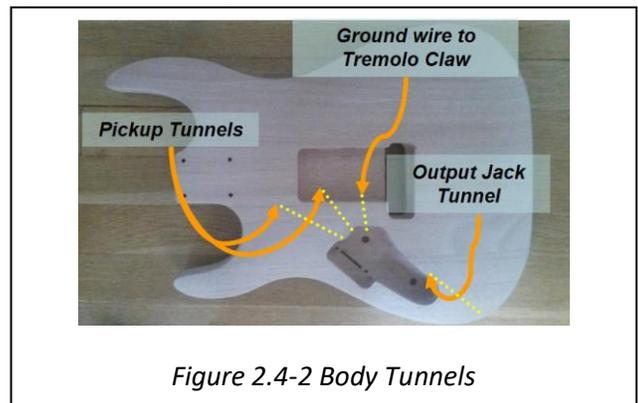

Figure 2.4-2 Body Tunnels
1. From the front of the Body, carefully run the Pickup shielded pickup wires through the tunnels between the Pickup pockets and the Audio pocket (Fig. 2.4-2), ensuring that the pickup is flush against the Body and the taper is facing the Neck;